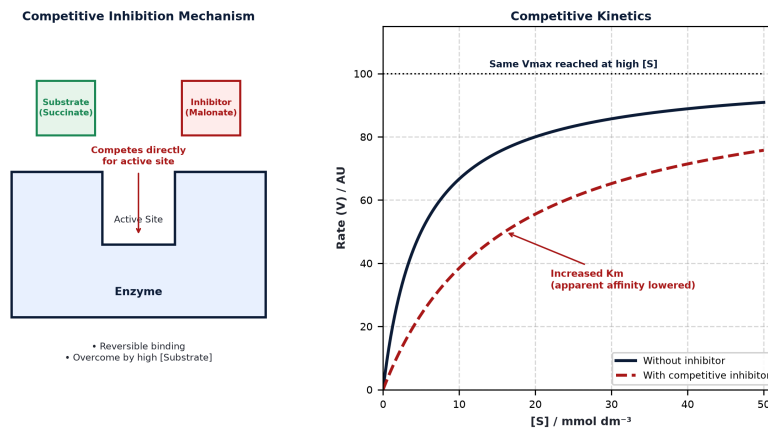

Fig. 3.10: Molecular mechanism and kinetic curve of competitive inhibition.
Malonate is a classic competitive inhibitor of the mitochondrial enzyme succinate dehydrogenase. Fig. 3.10 shows the mechanism and the effect of a competitive inhibitor on reaction rate.
- (b) With reference to Fig. 3.10, explain why a competitive inhibitor increases the apparent Km of an enzyme without altering Vmax. [2]